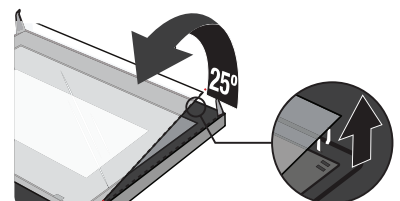

Figure 4
4.) Separate the glass carefully by lifting it approximately 25 degrees (Figure 4).